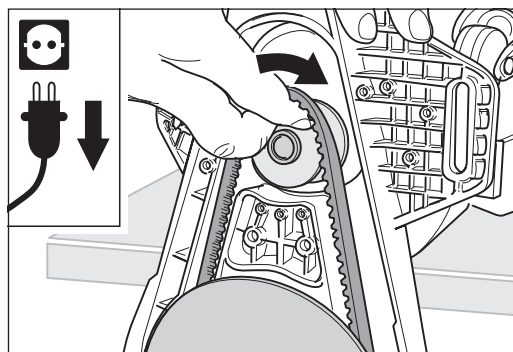

Fig. 46 Insert the V-belt into the motor pulley.
- 5 Push the attachment over the motor pulley and insert the V-belt into the motor pulley (fig. 46).